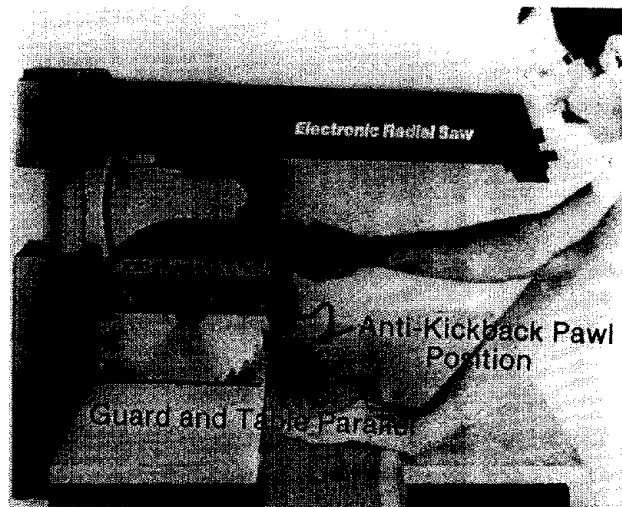

Fig. 118 - Crosscut Blade Guard and Body Position
**WARNING:** To reduce the risk of contact with the upper half of the blade and keep the workpiece from jamming in the guard, set the blade guard in the horizontal position, Fig. 118.
⚠ WARNING: The blade guard must be horizontal to provide protection from contact with the upper half of the blade and avoid the workpiece being jammed in the blade. Set the blade guard in the horizontal position. Fig. 118.